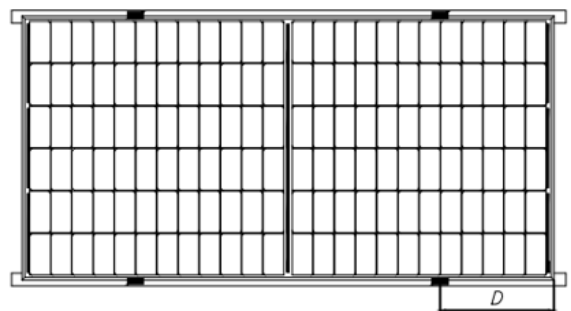

Fig.3 Rails overlapping the long-side frame
When double-sided PV modules are installed, each PV module must be fixed with at least 4 presses, as shown in Figures 3、4、5、6.
- ⑧ For the mounting shown in Figure 3, the overlap between the C surface of the assembly and the rail should be ≥ 25 mm. Astronergy's limited warranty will be void if improper clamps or improper installation is used.